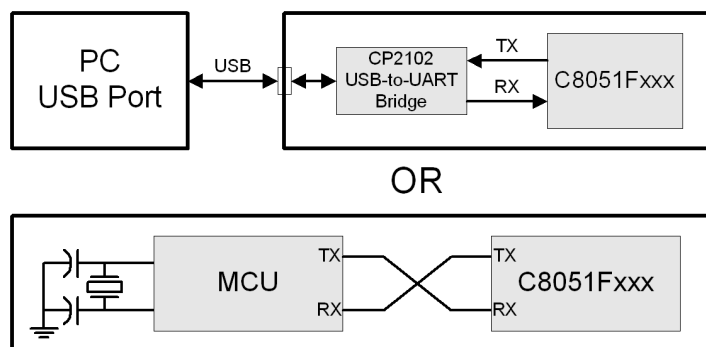

Figure 23.5. Typical UART Interconnect Diagram
In typical UART communications, The transmit (TX) output of one device is connected to the receive (RX) input of the other device, as shown in Figure 23.5.